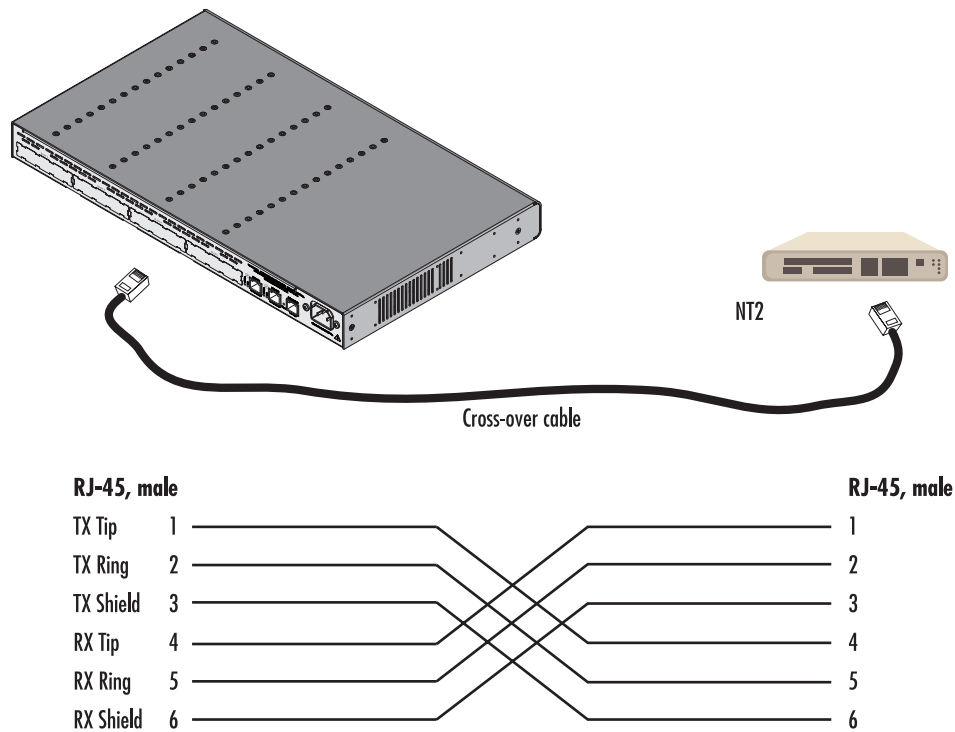

Figure 74. Connecting a PRI port to an NT2
The PRI is usually connected to a PBX or switch—local exchange (LE). Type and pin outs of these devices vary depending on the manufacturer. In most cases, a straight-through RJ-45 to RJ-45 can be used to connect the PRI (see table 36 for IC-T1V card port pin-out listing) with a PBX. A cross-over cable is required to connect to a NT2, as illustrated in figure 74.